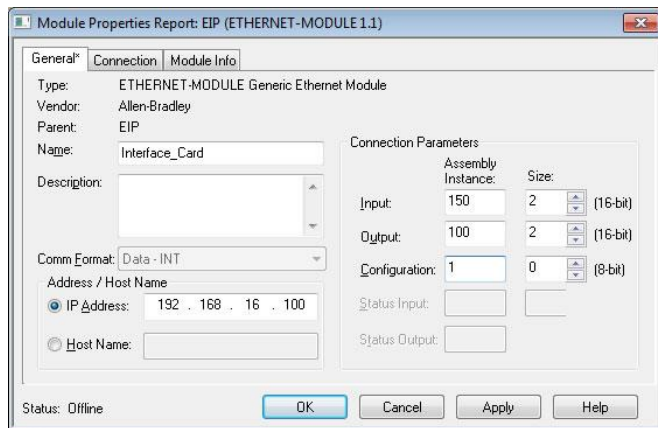

Figure 26: Interface Card Module Properties
- 4) The module properties dialog box will open (refer to Figure 26). Enter a Name which will allow easy identification of the inverter on the network (the tags created in RSLogix 5000 will be derived from this Name). Because all inverter data is stored as 16-bit registers, change the "Comm Format" selection to "Data-INT". Enter the IP address of the targeted interface card.